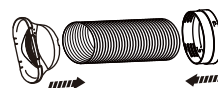

fig. 1
1. Extend one head of the hose connect the exhaust hose to the hose connector.(see fig 1)
(see fig 1)